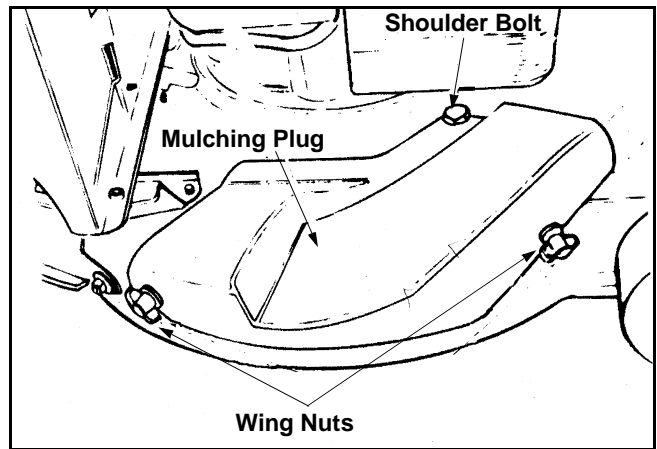

Figure 5
- Attach the mulching plug by first placing it over the rear bolt in the side of the deck. Then slide the notch in the top of the mulching plug around the shoulder bolt on the top of the deck. Slide the notch in the side of the mulching plug around the front bolt in side of the deck and secure using two wing nuts. See Figure 5.